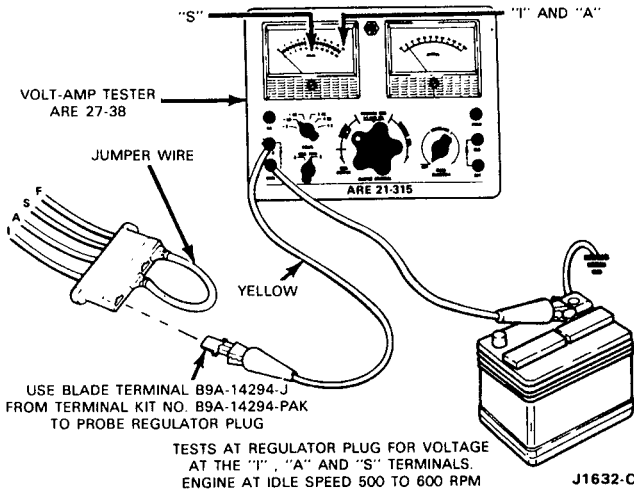

FIG. 10 Regulator Plug Voltage Tests
- If the voltmeter reading does not increase one volt above battery voltage, proceed to the next step before performing other tests, the field circuit (regulator plug to alternator) must be checked for a grounding condition. If the field circuit is grounded and the jumper wire is used as a check at the regulator wiring plug from the A to F terminals (Figure 10), excessive current will cause heat damage to the regulator wiring plug terminals and may burn the jumper wire (Fig. 10). Also, if the field circuit was grounded, the connector wire inside the regulator will be burned open and an under voltage condition will result.
- If the field circuit is satisfactory, disconnect the regulator wiring plug at the regulator and connect the jumper wire from the A to the F terminals on the regulator wiring plug (Fig. 10).
1. Connect the positive lead of the voltmeter to the S terminal of the regulator wiring plug (Fig. 10). Then, turn the ignition switch to the ON position. Do not start the engine.
2. With the engine idling, connect the positive lead of the voltmeter to the S terminal and then to the I terminal of the regulator wiring plug (Fig. 10). The voltage of the S circuit should read approximately 1/2 of the I circuit.